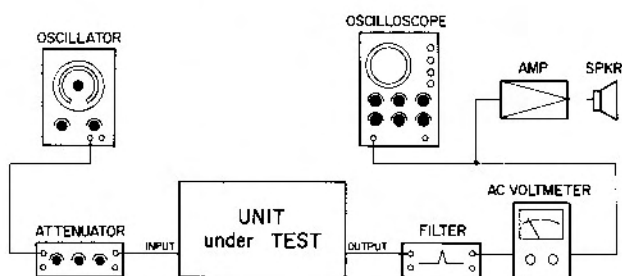

Fig. 2-18. Erase Ratio Test Set-Up
1. Connect test equipment to the tape deck as shown in Fig. 2-18.